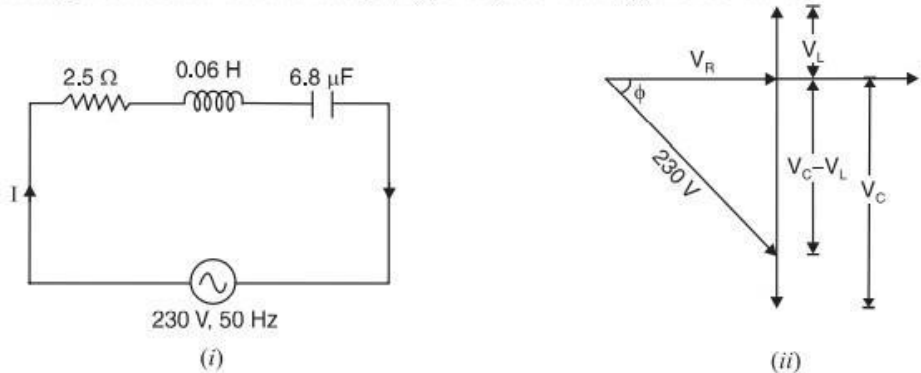

Fig. 12.35
**Solution.** Fig. 12.35 (i) shows the conditions of the problem.
The negative sign with  $\phi$  shows that current is leading the voltage [ See the phasor diagram in Fig. 12.35 (ii)].